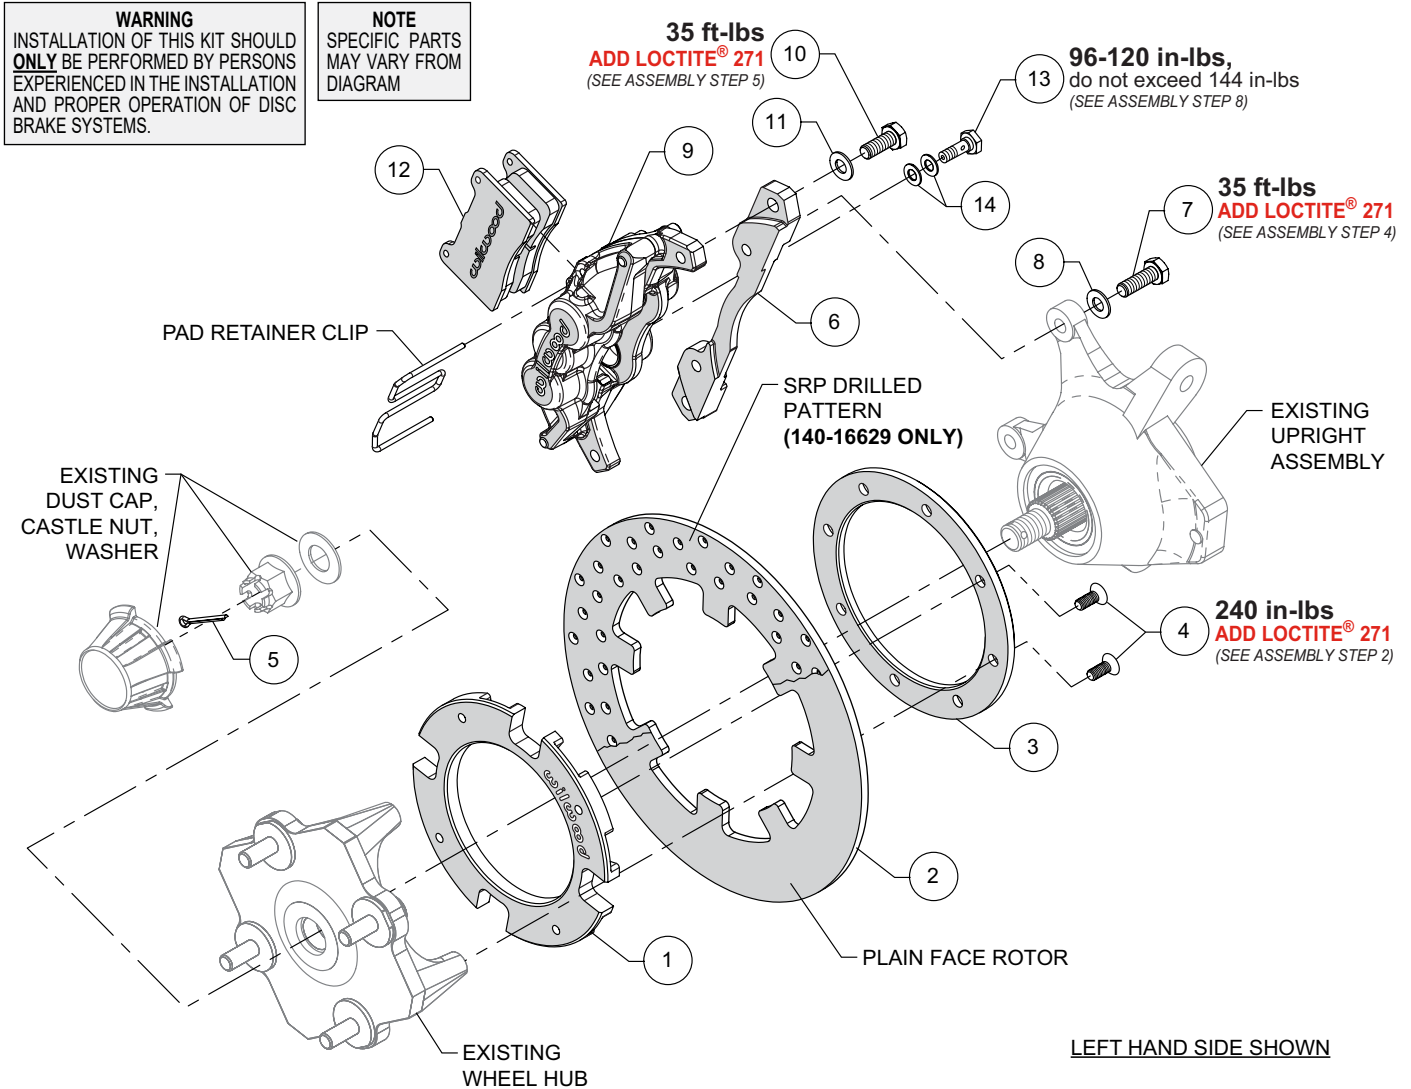

Figure 1. Typical Installation Configuration
NOTE: Numbers in parenthesis refer to the parts list and Figure 1 on the preceding pages.
STEP 1 Place the existing OEM wheel hub face down and position the rotor adapter (1) onto the wheel hub as shown in Figure 1 and Photo 1. **NOTE:** The existing wheel hub must be free of dirt and debris or excessive rotor run out may result.
STEP 2 Position the rotor (2) onto the rotor adapter (1), making sure the rotor lugs fit into the recesses of the rotor adapter, as shown in Photo 2. Place the adapter ring (3) over the assembly and attach using bolts (4), Photos 3 and 4. Using an alternating sequence, apply red *Loctite*® 271 to the threads, and torque to value shown in Figure 1.
STEP 3 Grease the splines and outer snout of the existing wheel hub and slide the wheel hub/rotor assembly onto the axle and attach using the existing OEM washer and castle nut. Tighten to OEM specifications and secure using cotter pin (5), Photo 5. Reinstall the existing dust cap, Photo 6.
STEP 4 Orient the caliper mounting bracket (6), as shown in Figure 1 and Photos 7 and 8. Install using bolts (7) and washers (8). Apply red *Loctite*® 271 to the bolt threads and torque to value shown in Figure 1.
STEP 5 Secure the caliper (9) to the mounting bracket (6) using bolts (10) and washers (11), Photo 9. Apply red *Loctite*® 271 to the threads, and torque to value shown in Figure 1.
STEP 6 Remove the pad retainer clip from the caliper (9). Insert the brake pads into the caliper with the friction material facing the rotor, as shown in Photo 10. Reinstall the pad retainer clip, Photo 11.
STEP 8 Attach brake line to caliper. Orient OEM brake line as shown in Photo 12 and connect to caliper using banjo bolt (13) and crush washers (14). Do not use lubricant or thread sealant on banjo bolt (13). Torque to minimum value shown in Figure 1. Check for leakage, increasing torque only to stop leakage without exceeding